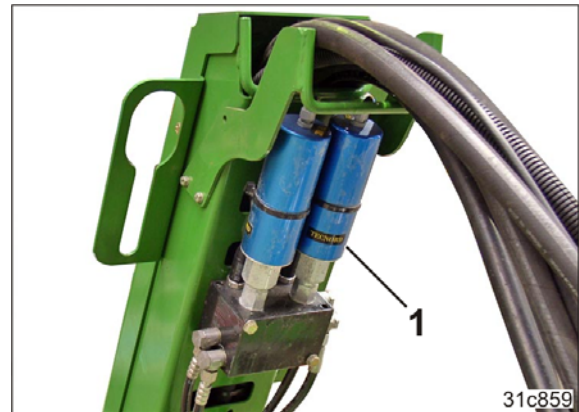

Fig. 87
- a setting motor (Fig. 87/1, optional), which is operated using the AMATRON 3 in the tractor cab.